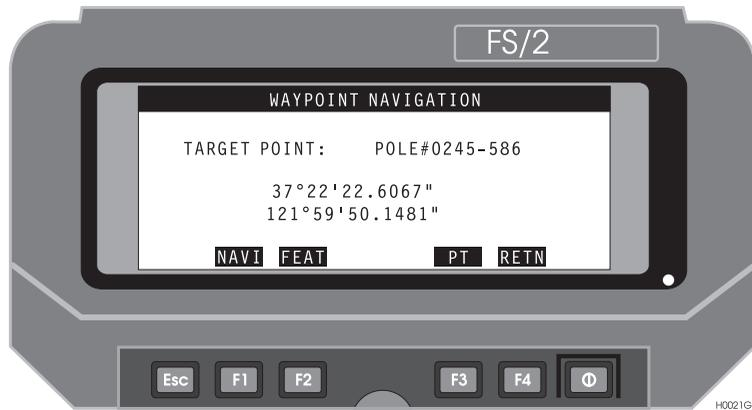

Figure 3.27: Waypoint Navigation Screen
2. Press **F1(WYPT)**. The Waypoint Navigation screen appears, as shown in Figure 3.27.